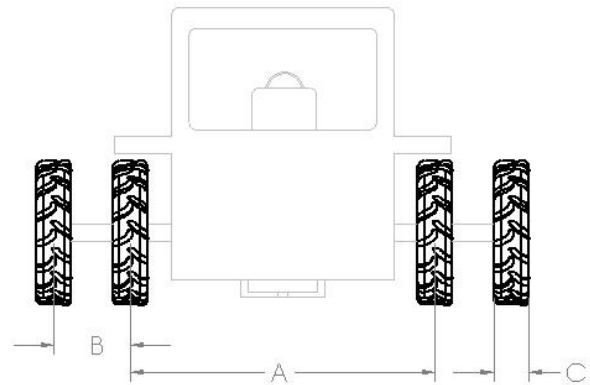

Figure 7: Tire Spacing
4.1.2 Tire Spacing and Inflation: Tires should be inflated to the manufacturer's specification. See section Table 2: Tire Size and Pressure on page 7 for more information. Figure 7 shows the appropriate tire spacing.